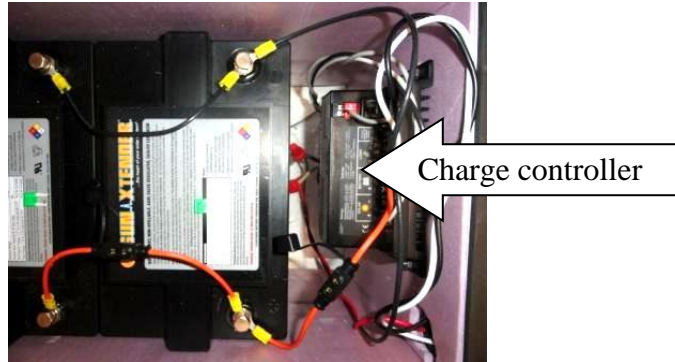

Figure 12. Charge Controller
5. Locate the charge controller, as shown in Figure 12.